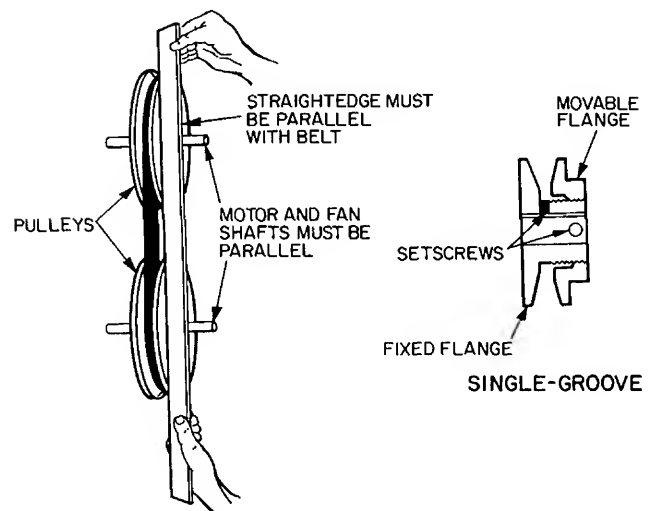

Fig. 27 – Evaporator-Fan Pulley Adjustment
3. Loosen movable pulley flange setscrew (see Fig. 27).